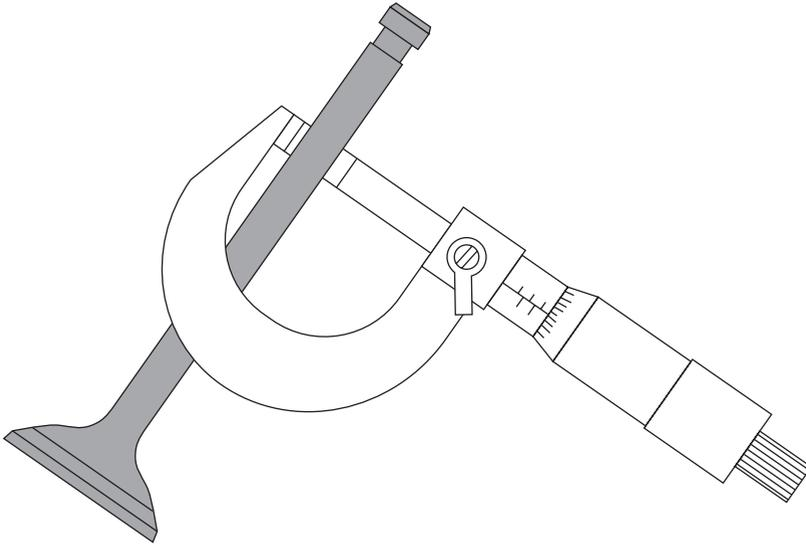

Figure 1.18 Using a micrometre to measure valve stem wear
**Valve stem wear** is checked by using an outside micrometre, as illustrated in Figure 1.18.